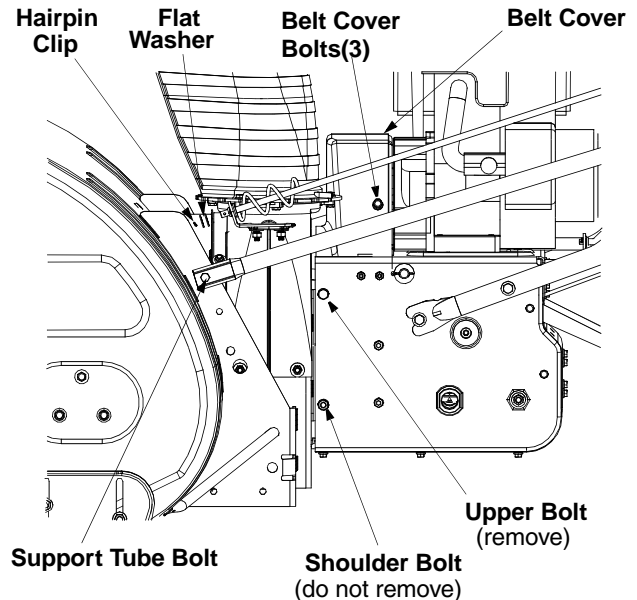

Figure 19
- To remove the shave plate, remove the carriage bolts and hex flange locknuts which attach shave plate to the snow thrower housing. See Figure 19.
- Remove the plastic belt cover, located near the engine, by removing the three self-tapping screws and flat washers that secure it. See Figure 19.
- Remove the upper bolts and lock washers which attach the auger housing assembly to the frame assembly using a 9/16" wrench. Refer to Figure 19.